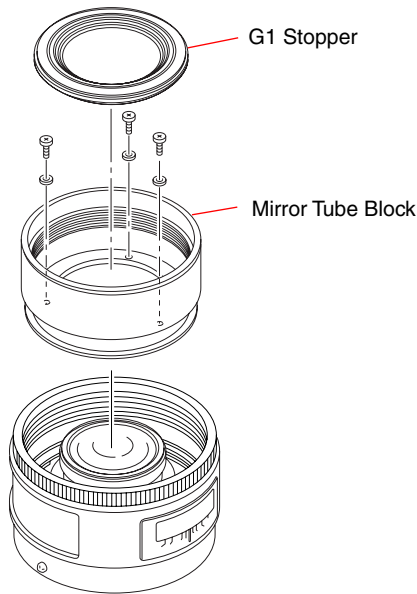

Fig.4-4-5
- 1) Disassemble or assemble the checking lens into the state of Fig.4-4-5.